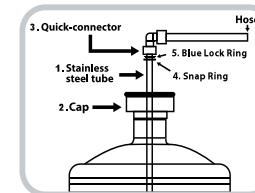

Fig.1
3. Installing the water bottle pump connection (Fig. 1)
A. With a 3 or 5 gallon water bottle standing outside the unit, just in front of the opened cabinet, place the stainless steel tube (1) inside the bottle with at least a gallon of water (insert the bent end of the tube into the bottle). Part of the tube will be exposed over the bottle neck. It is normal to have a further portion of the tube exposed when using a 3 gallon water bottle.
B. Slide the bottle cap (2) over the tube and press it down on the opening of the bottle to secure it.
C. Remove the Blue Lock Ring (5) in order to connect the hose with the quick-connector (3) to the end of the stainless steel tube. Make sure the tube is pushed all the way into the fitting end until it seats at the stop, otherwise the water may not be pumped. Reinsert the Blue Lock Ring back to its original position. The connector should stay firmly on the tube.